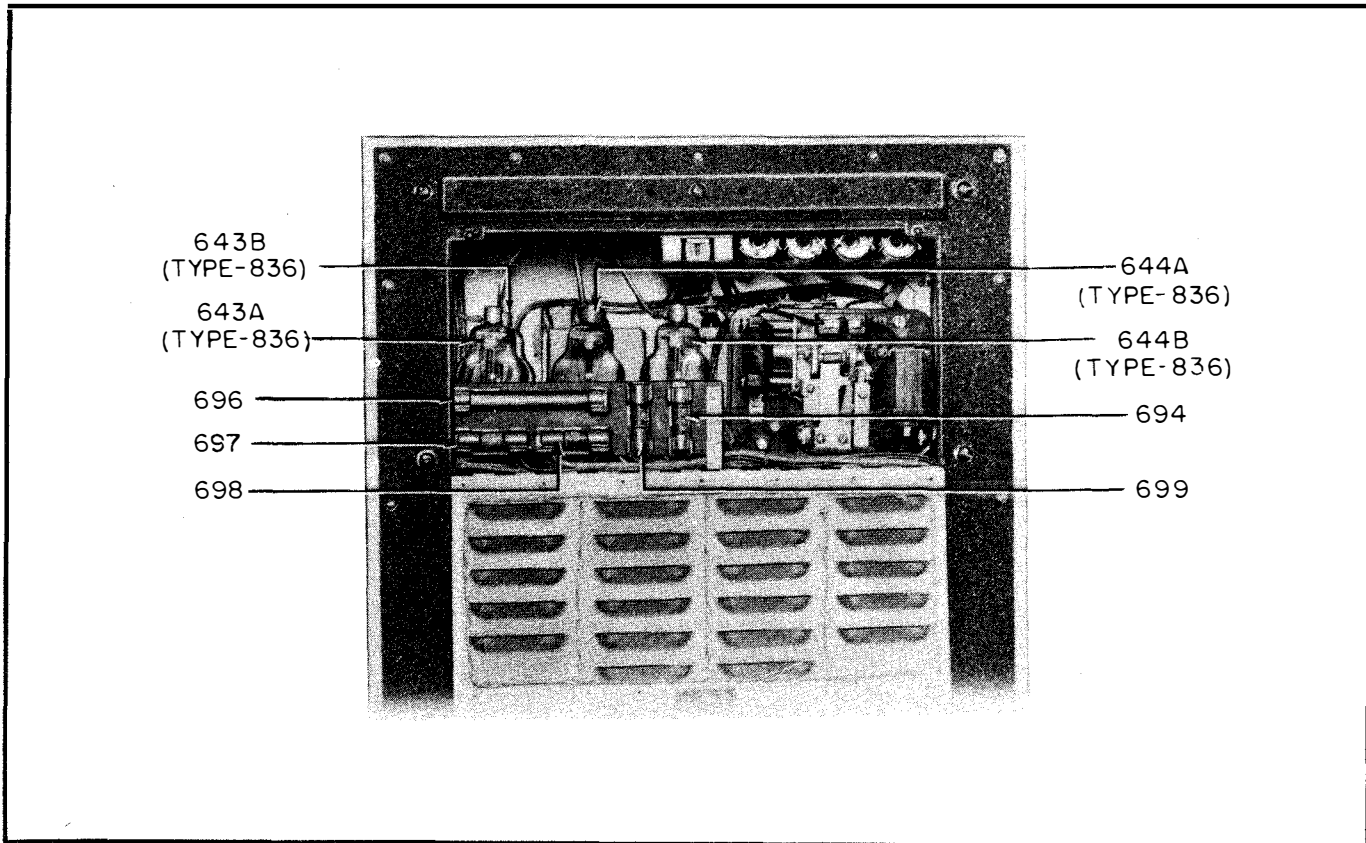

Figure 5-1. Vacuum Tube and Fuse Locations, Rectifier Navy Type CG-20122
transmitter, and rectifier. Figures 5-1, 5-2, and 5-3 show types and location of vacuum tubes used in these units.
b. The following table gives the amperage, location and function of each fuse in the rectifier circuits. Refer to figure 5-1.